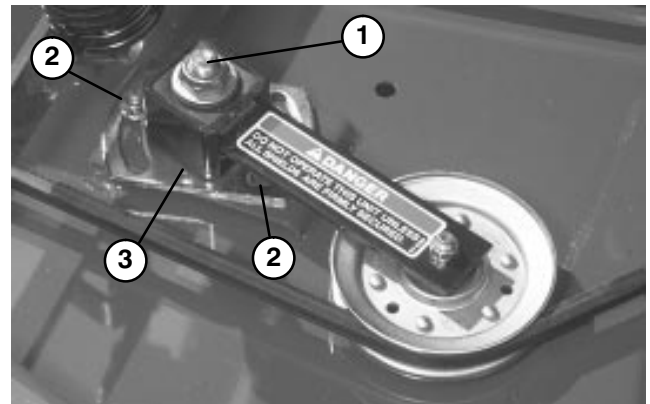

Figure 35
ADJUSTING IDLER PULLEY (Fig. 35)
3. Loosen two nuts securing idler plate in place. Using a socket and torque wrench, tighten the idler adjusting nut to 40-50 ft-lb. (Fig. 35).